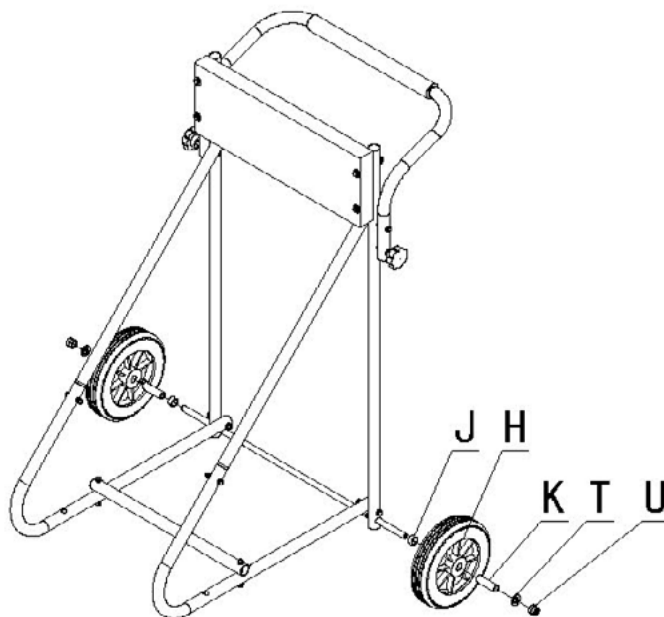

FIG. 6.
Step 6. Put the Space Sleeve (J) into Axle (B), and the Axle Sleeve (K) into Wheel (H), then put together into Axle (B). Put the 12 Washer (T) into Axle (B) and screw with M12 Lock Nut (U)
Note: After wheels are installed on the axle be sure that the wheels are free to roll. If not, loosen the M12 Lock Nuts (P) accordingly. SEE FIG. 6.